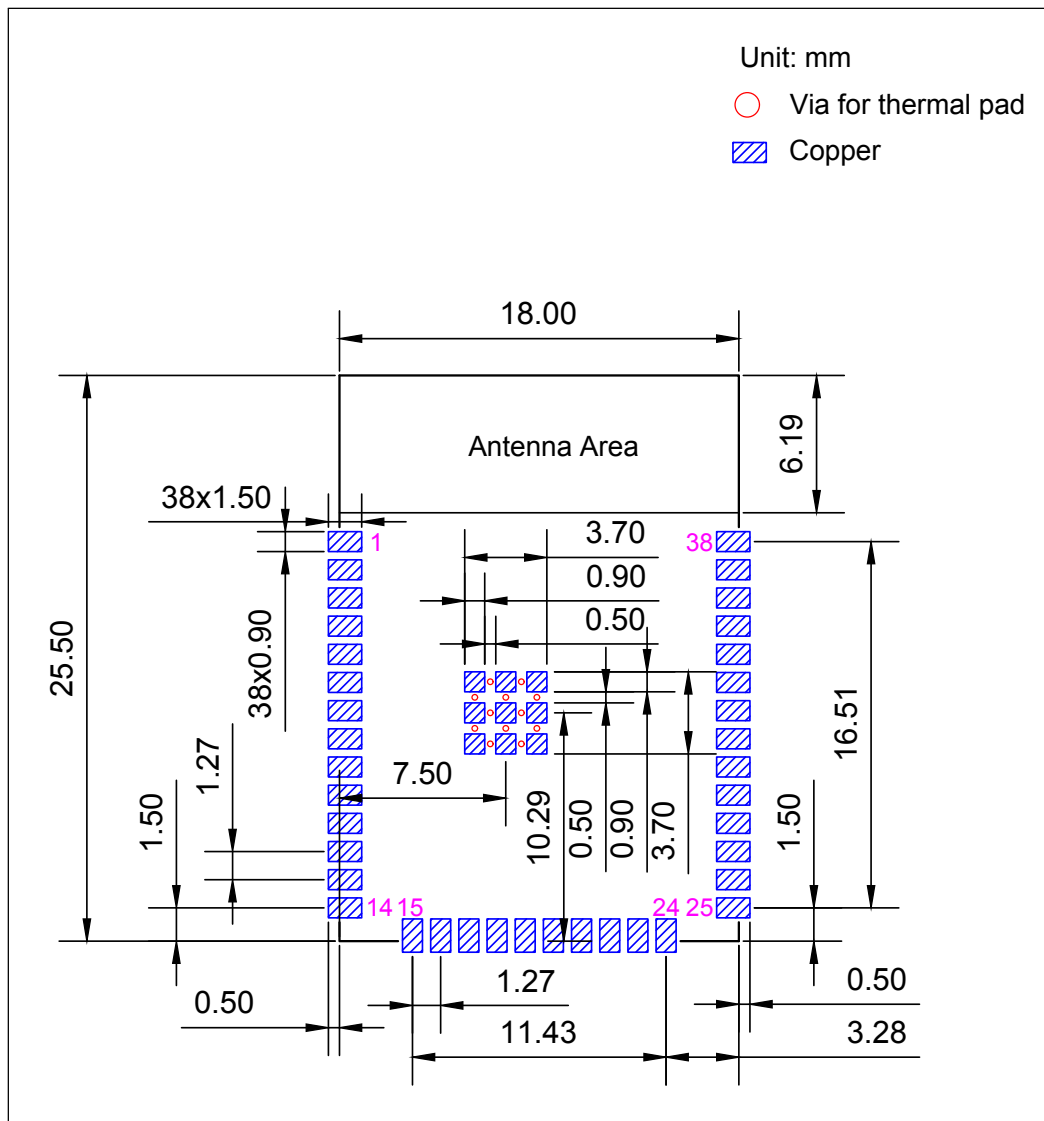
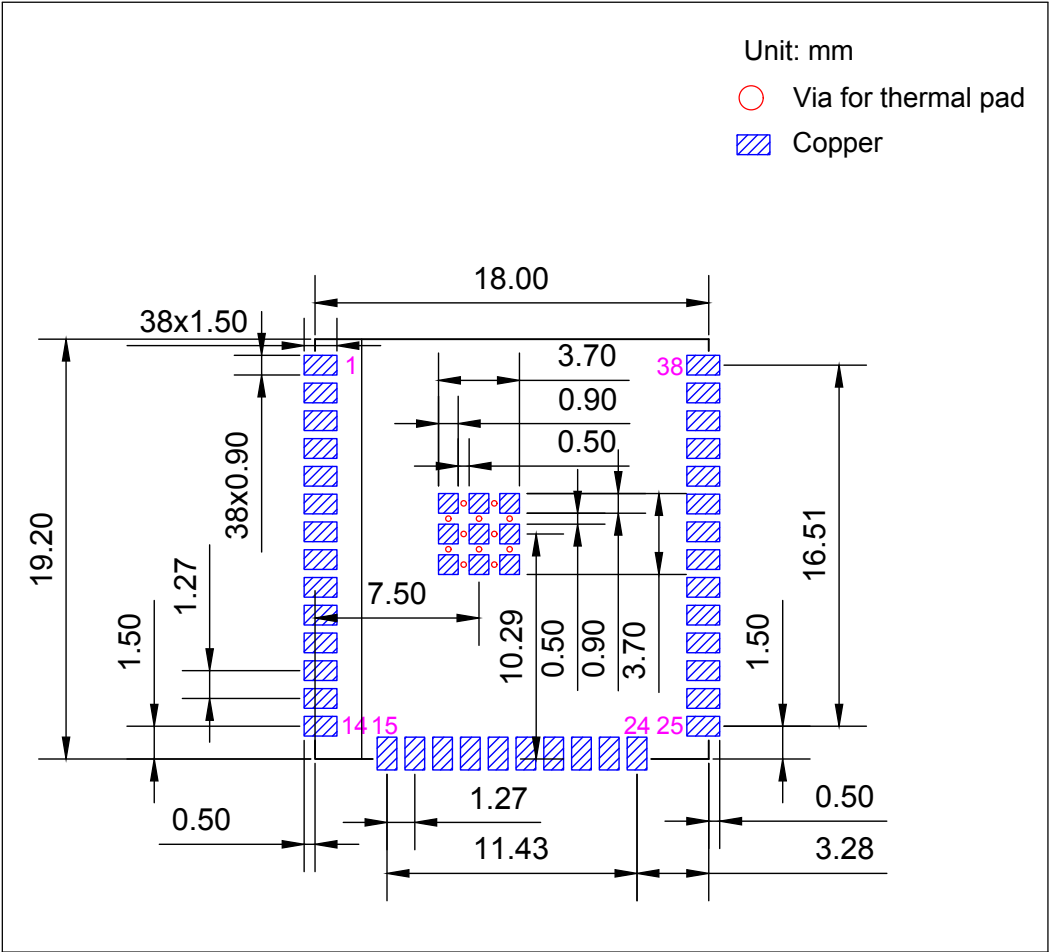

Figure 8: Recommended PCB Land Pattern of ESP32-WROOM-32D
Figure 9: Recommended PCB Land Pattern of ESP32-WROOM-32U
- Figures for recommended PCB land patterns with all the dimensions needed for PCB design. See Figure 8 *Recommended PCB Land Pattern of ESP32-WROOM-32D* and Figure 9 *Recommended PCB Land Pattern of ESP32-WROOM-32U*.
- Source files of recommended PCB land patterns to measure dimensions not covered in Figure 8 and Figure 9. You can view the source files for ESP32-WROOM-32D and ESP32-WROOM-32U with Autodesk Viewer.